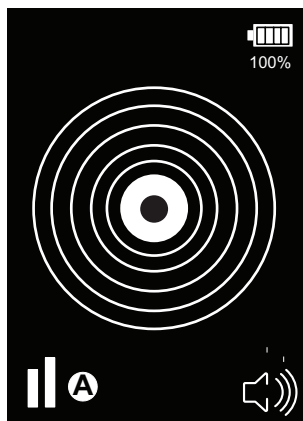

Fig. 7: Alarm indication display
5. If refrigerant is detected, the sound will increase in rate and pitch and the display will show concentric rings increasing outward from the center as the concentration of refrigerant increases (see Fig. 7).